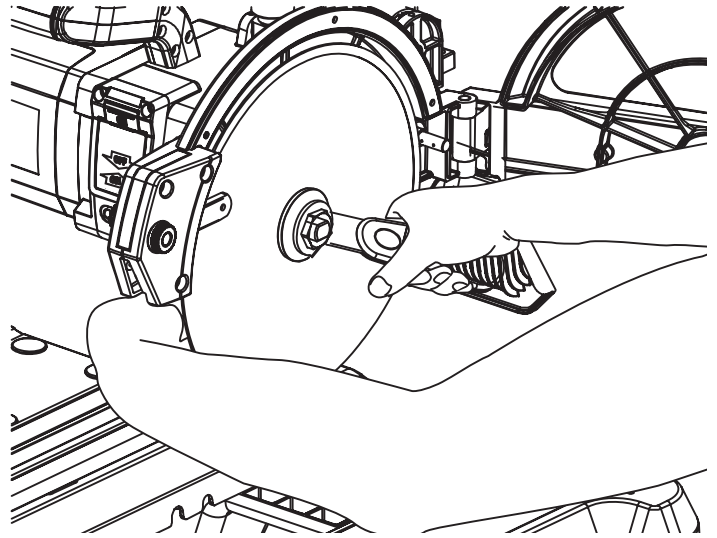

Fig. 24
5. Press the spindle lock, while securely tightening the motor-shaft nut on the motor shaft with the wrench supplied (Fig. 24).